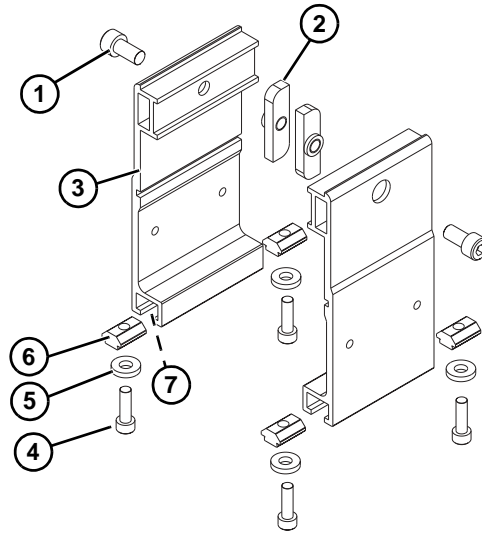

Figure 8
Locate brackets. Exploded views shown in (Figure 8).
1. Loosen screws (Figure 8, item 1) or from nuts (Figure 8, item 2), and leave on brackets (Figure 8, item 3).
2. Remove screws (Figure 8, item 4) and washers (Figure 8, item 5) from T-bars (Figure 8, item 6). Leave T-bars (Figure 8, item 6) in bracket slots (Figure 8, item 7).